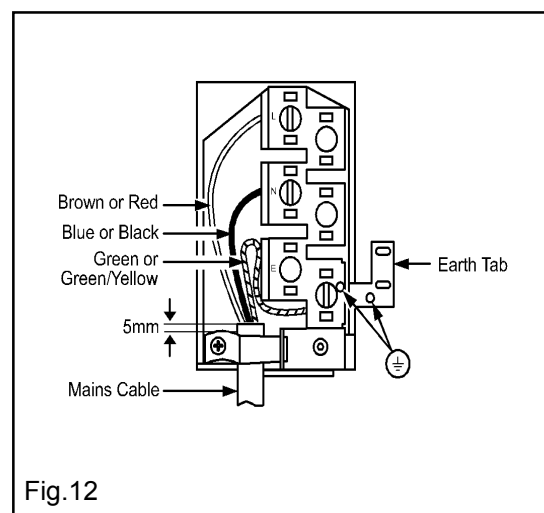

Fig.12
- Make connection as shown in Fig. 12 by proceeding as follows:-
- Clamp the mains cable securely ensuring 5mm of the outer insulation is inside the terminal block and that the wires are not taugt but not so slack as to cause any fouling. See Fig. 12.